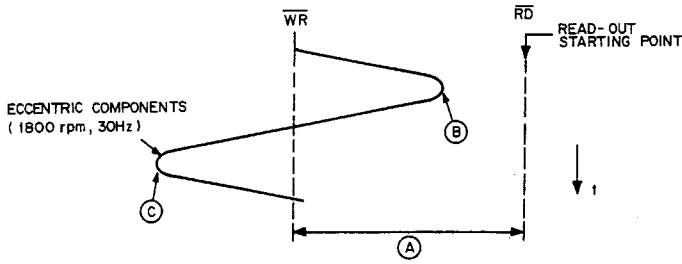
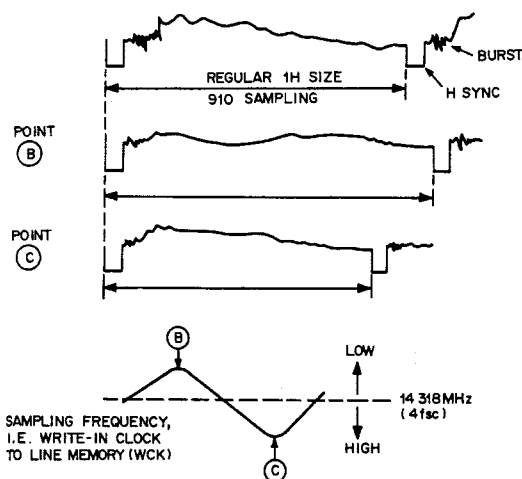

Fig. 3-4
Fig. 3-5
Even when the \overline{WR} point fluctuates to the left and right, data read-out is possible without overflow or lack of data from the line memory unless the eccentricity components exceed the length (A) in Fig. 3-4. In other words, the line memory functions as a variable delay line to absorb eccentricity components in the same way as the conventional CCD. The difference with the CCD is that there is no signal deterioration due to fluctuations of the CCD clock since digital signal processing is performed using A/D converted data.
Actually, since the spindle servo functions so that the period (A) in Fig. 3-4 is separated by about $1/2H$, eccentricity components of approx. $\pm 30 \mu s$ can be absorbed by the line memory and time axis correction is made possible.
Since the PBH period is longer than the REFH period at point (B) in Fig. 3-4, the 1H period is longer than usual, and is shorter at point (C). (See Fig. 3-5.)